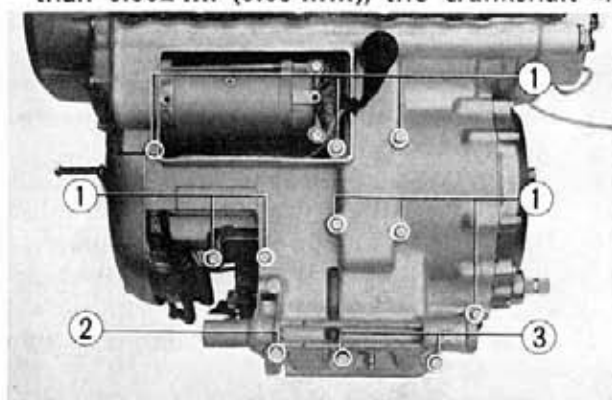

Fig. 3-73 ① 6mm bolts ② 10mm bolt ③ 8mm bolts
12. Loosen the upper crankcase mounting bolts. (Fig. 3-73)